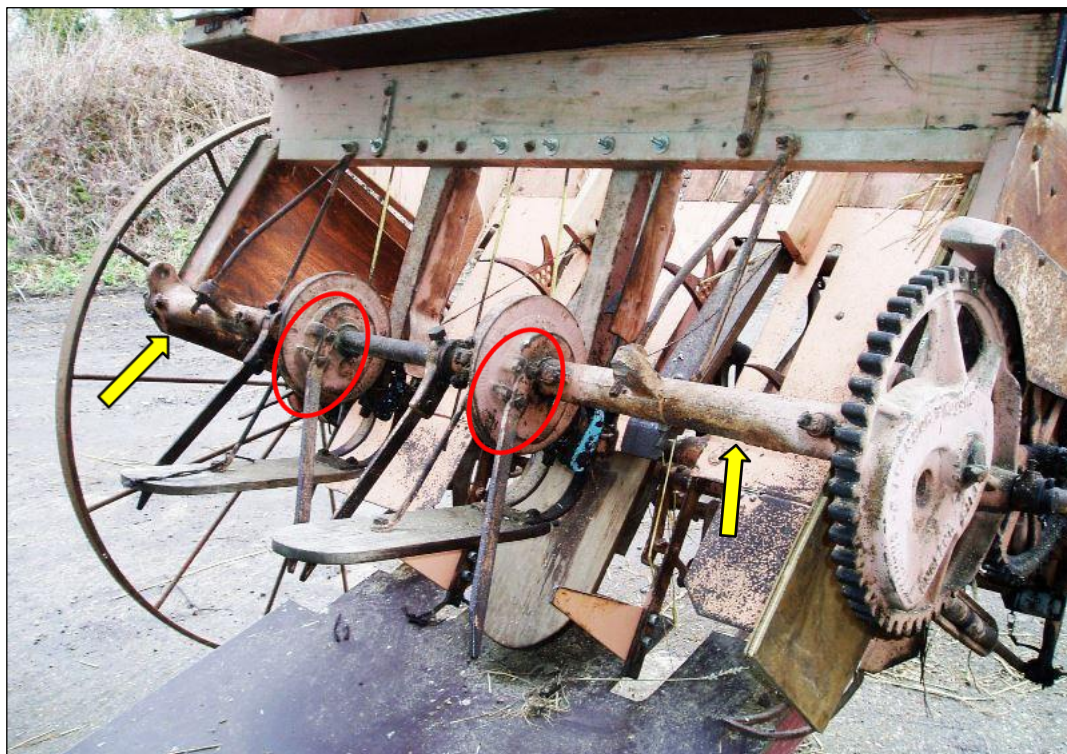

Fig.5.7 Ruston & Hornsby double band trusser, showing arrangement of components
- On certain other makes of trussers (e.g. Ruston & Hornsby (Fig.5.7)), the Knotter Shaft is supported at both (*left & right-hand*) ends by fixed support castings. The Knotter Shaft components are sandwiched between the ends of the Support Castings and (*where necessary*) held laterally by the Discharge Arm mounting bosses & other fixed components (e.g. the *left-hand Cam Gear*)